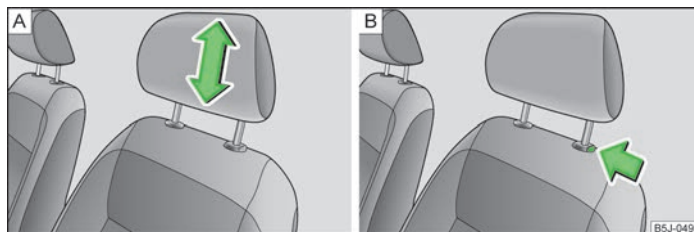

Fig. 37 Head restraint: adjusting/removing
- Grasp the side of the head restraint with both hands and push it upwards as required » Fig. 37 - [A].
- To move the head restraint downwards, press and hold the safety button » Fig. 37 - [B] with one hand and press the head restraint downwards with the other hand.
- Press the locking button in direction of the arrow » Fig. 37 - B and pull the head restraint out.